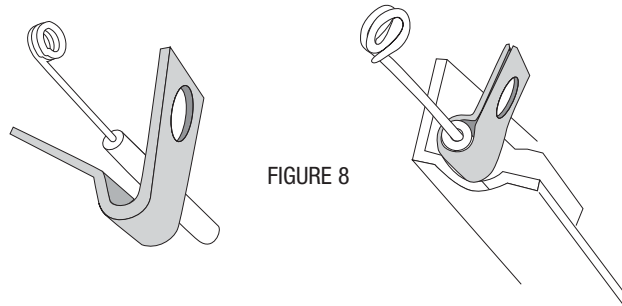

FIGURE 8
**Preparing the EZ Cable Integrators for installation:** First place a cable clip over the ends of the **EZ Integrators** (see figure 8). **Test fit these on the final mounting location to make sure you have the cable clips installed the correct direction so that the integrators can be mounted flush with edge of control head.** Prepare both integrators the same way (see figure 8). It is very important that you place the cable clips over the end of the integrators very securely and evenly. Place the cable clip over the end, press it firmly into place (using needle-nose pliers is recommended).